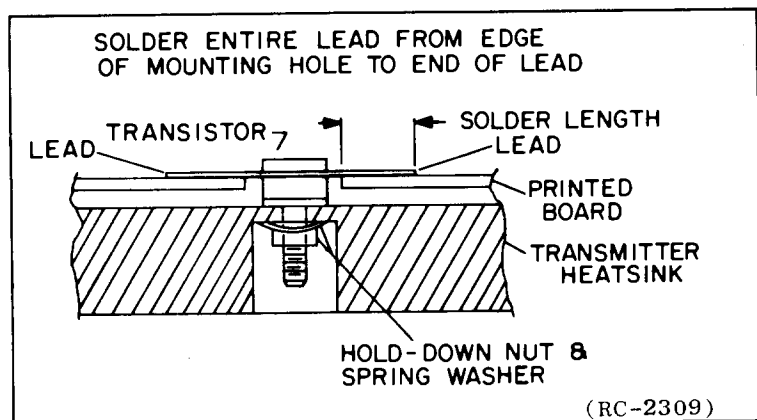

Figure 2 - Lead Forming
6. Make sure that the transistor leads are formed as shown in Figure 2 so that the leads can be soldered to the printed circuit pattern, starting from the inner edge of the mounting hole.